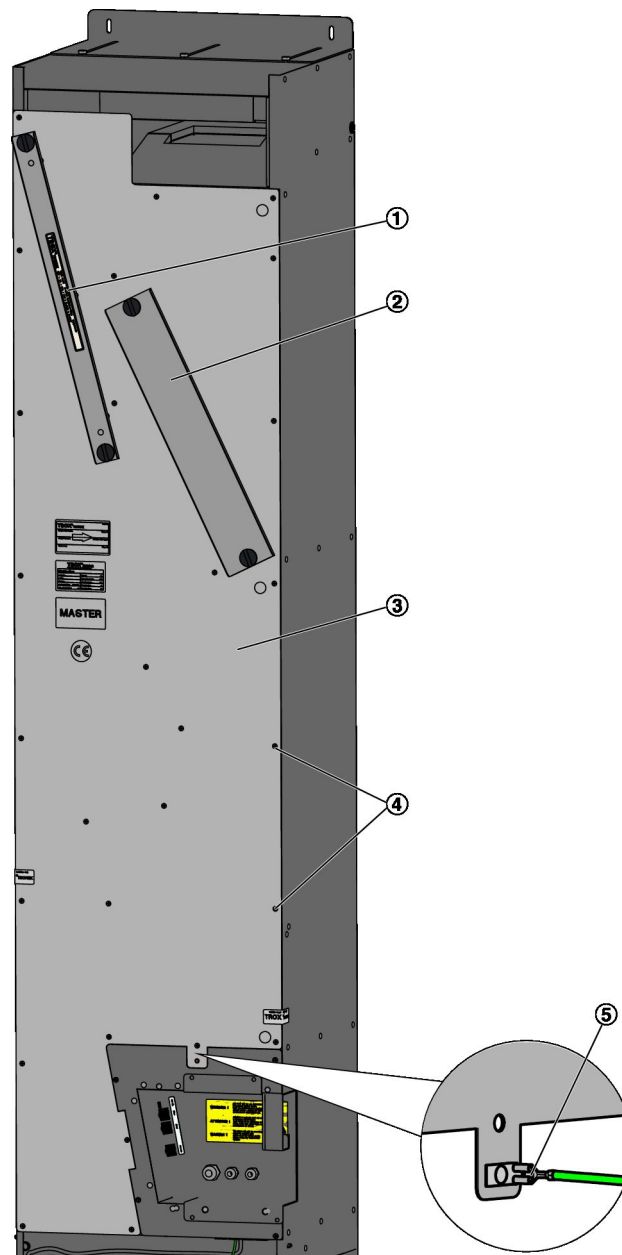

Fig. 33: Fixing the cover plate
Be sure to insert the protective conductor (Fig. 33/5) when you fix the cover plate.
1. ▶ Attach the protective earth conductor (Fig. 33/5) to the cover plate, then put the panel back onto the ventilation unit (Fig. 33/3). Fix the cover plate with the Phillips screws (Fig. 33/4).
2. ▶ Insert the extract air filter (Fig. 33/1) (Fig. 33/2) and remove the cover from the outdoor air filter chamber Fig. 33.